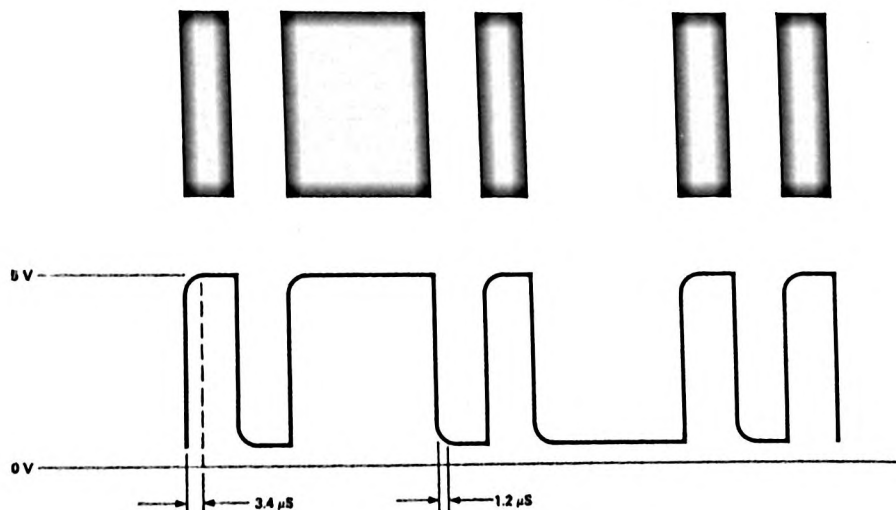

Figure 1. Typical Output Waveform
A non-reflecting black bar results in a logic high (1) level output, while a reflecting white space will cause a logic low (0) level output (see Figure 1). The initial state will be indeterminate. However, if no bar code is scanned, after a short period (typically less than 1 second), the wand will assume a logic low state. This feature insures that the first bar will not be missed in a normal scan.
6. See Figure 1.